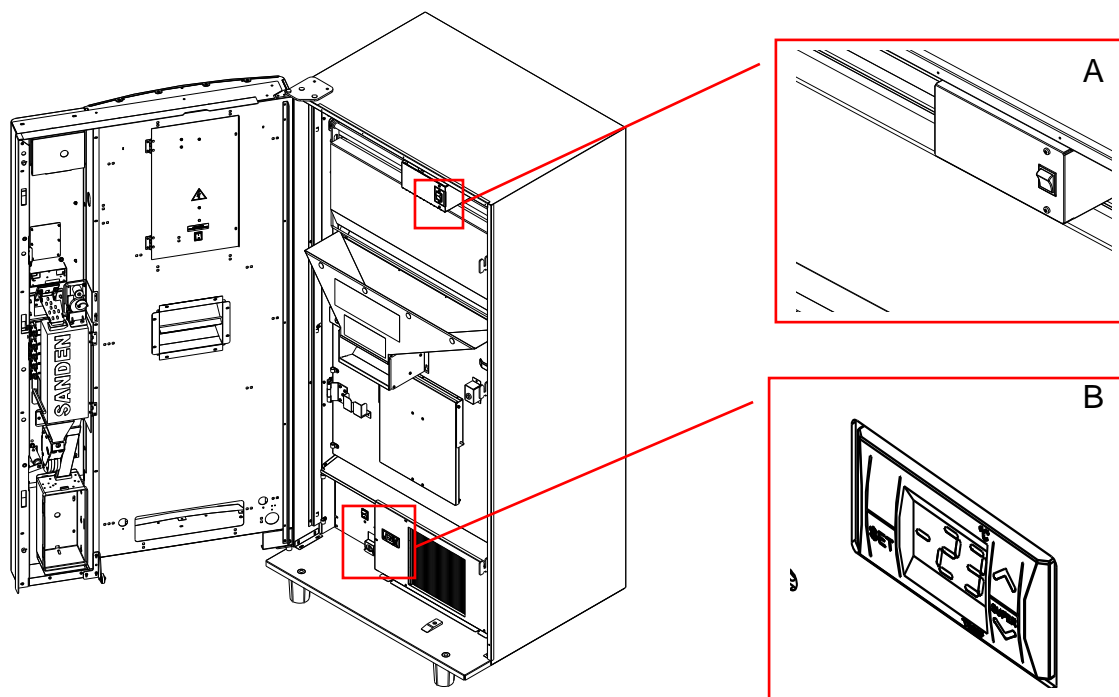

FIG. 5.2 - A) LOADING WICKET SWITCH
- 1) check the temperature inside the machine (rif. fig. 5.2): if it is sufficiently low, proceed to load the machine;
- 2) press the delivery door switch located on the motor cover (rif. fig. 5.2 – 5.3) and wait that the motor opens it;